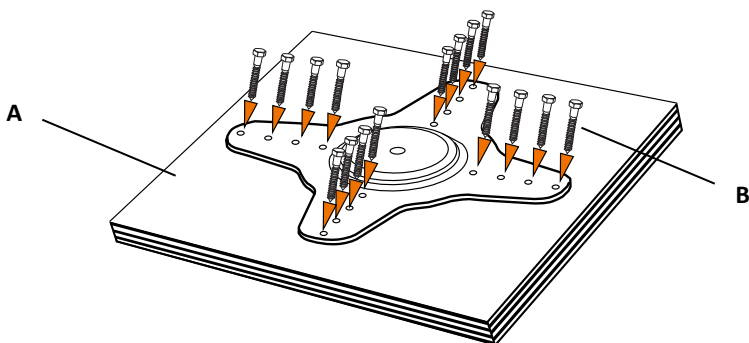

Figure 3 - CDX Plywood Wood Roof Substrate Installation
2. Place the anchor onto the CDX in the desired orientation. See Figure 3.